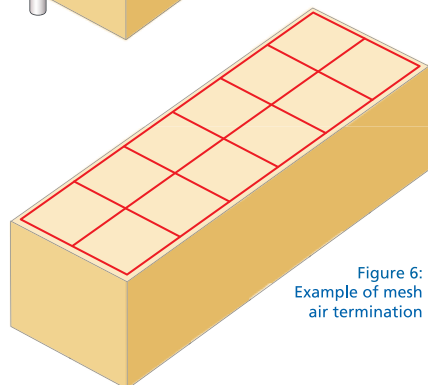

Figure 6:
- Meshed conductor network that may lie in direct contact with the roof or be suspended above it (in the event that it is of paramount importance that the roof is not exposed to a direct lightning discharge) (See Figure 6)